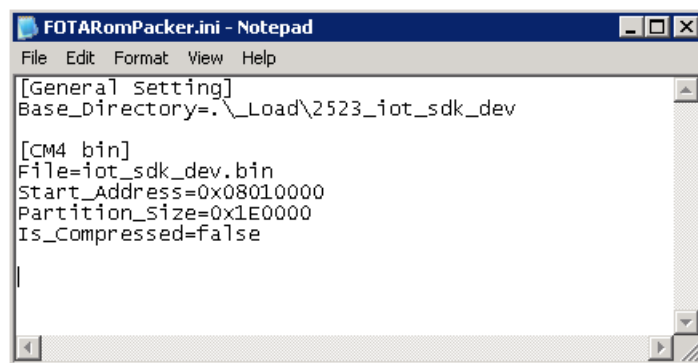

Figure 3. FOTARomPacker.ini FOTA configuration file content
- Set the load path to the line below [General Setting] as shown in Figure 3. FOTARomPacker.ini FOTA configuration file content.